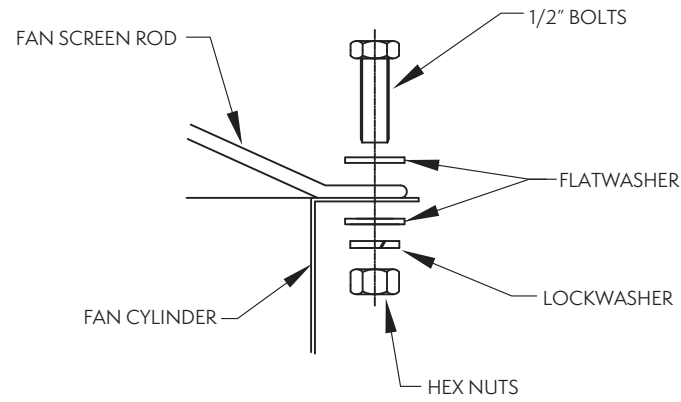

Figure 21 – Attaching Fan Screen to Cylinder
- At each hole, attach the fan screen to the discharge cylinder as shown in **Figure 21**.
- At each hole, attach the fan screen to the discharge cylinder as shown in **Figure 21**. At the four points where the support frame meets the cylinder, bolt the support frame to the cylinder together with the fan screen.